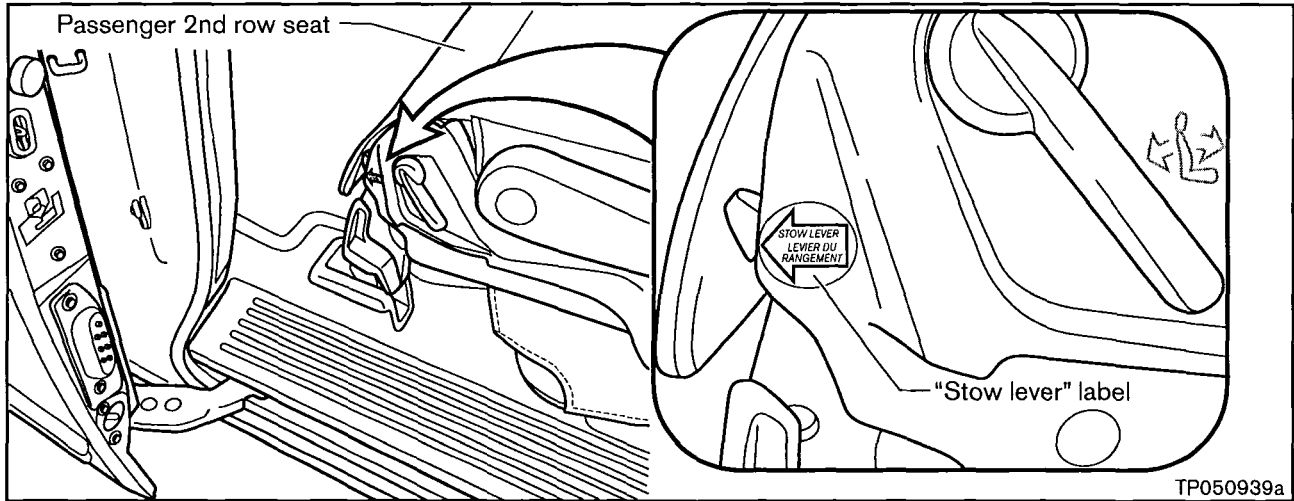

Figure 23
7. Install the “stow lever” label (from the kit) to the seat as shown in Figure 23.